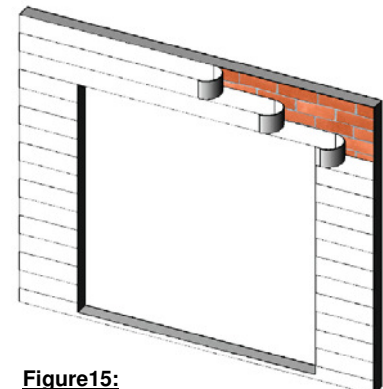

Figure15:
6. To complete the installation, apply backer rod and a complete bed of sealant to the entire exterior and interior joint between the frame and the building structure. Tool the sealant to eliminate bubbles, voids and / or breaks and ensure a completely watertight seal. (See Anchor Location Drawing, Figure 15).
4. Weather resistant building paper should be applied in a weatherboard fashion to complete the installation (Figure 15).